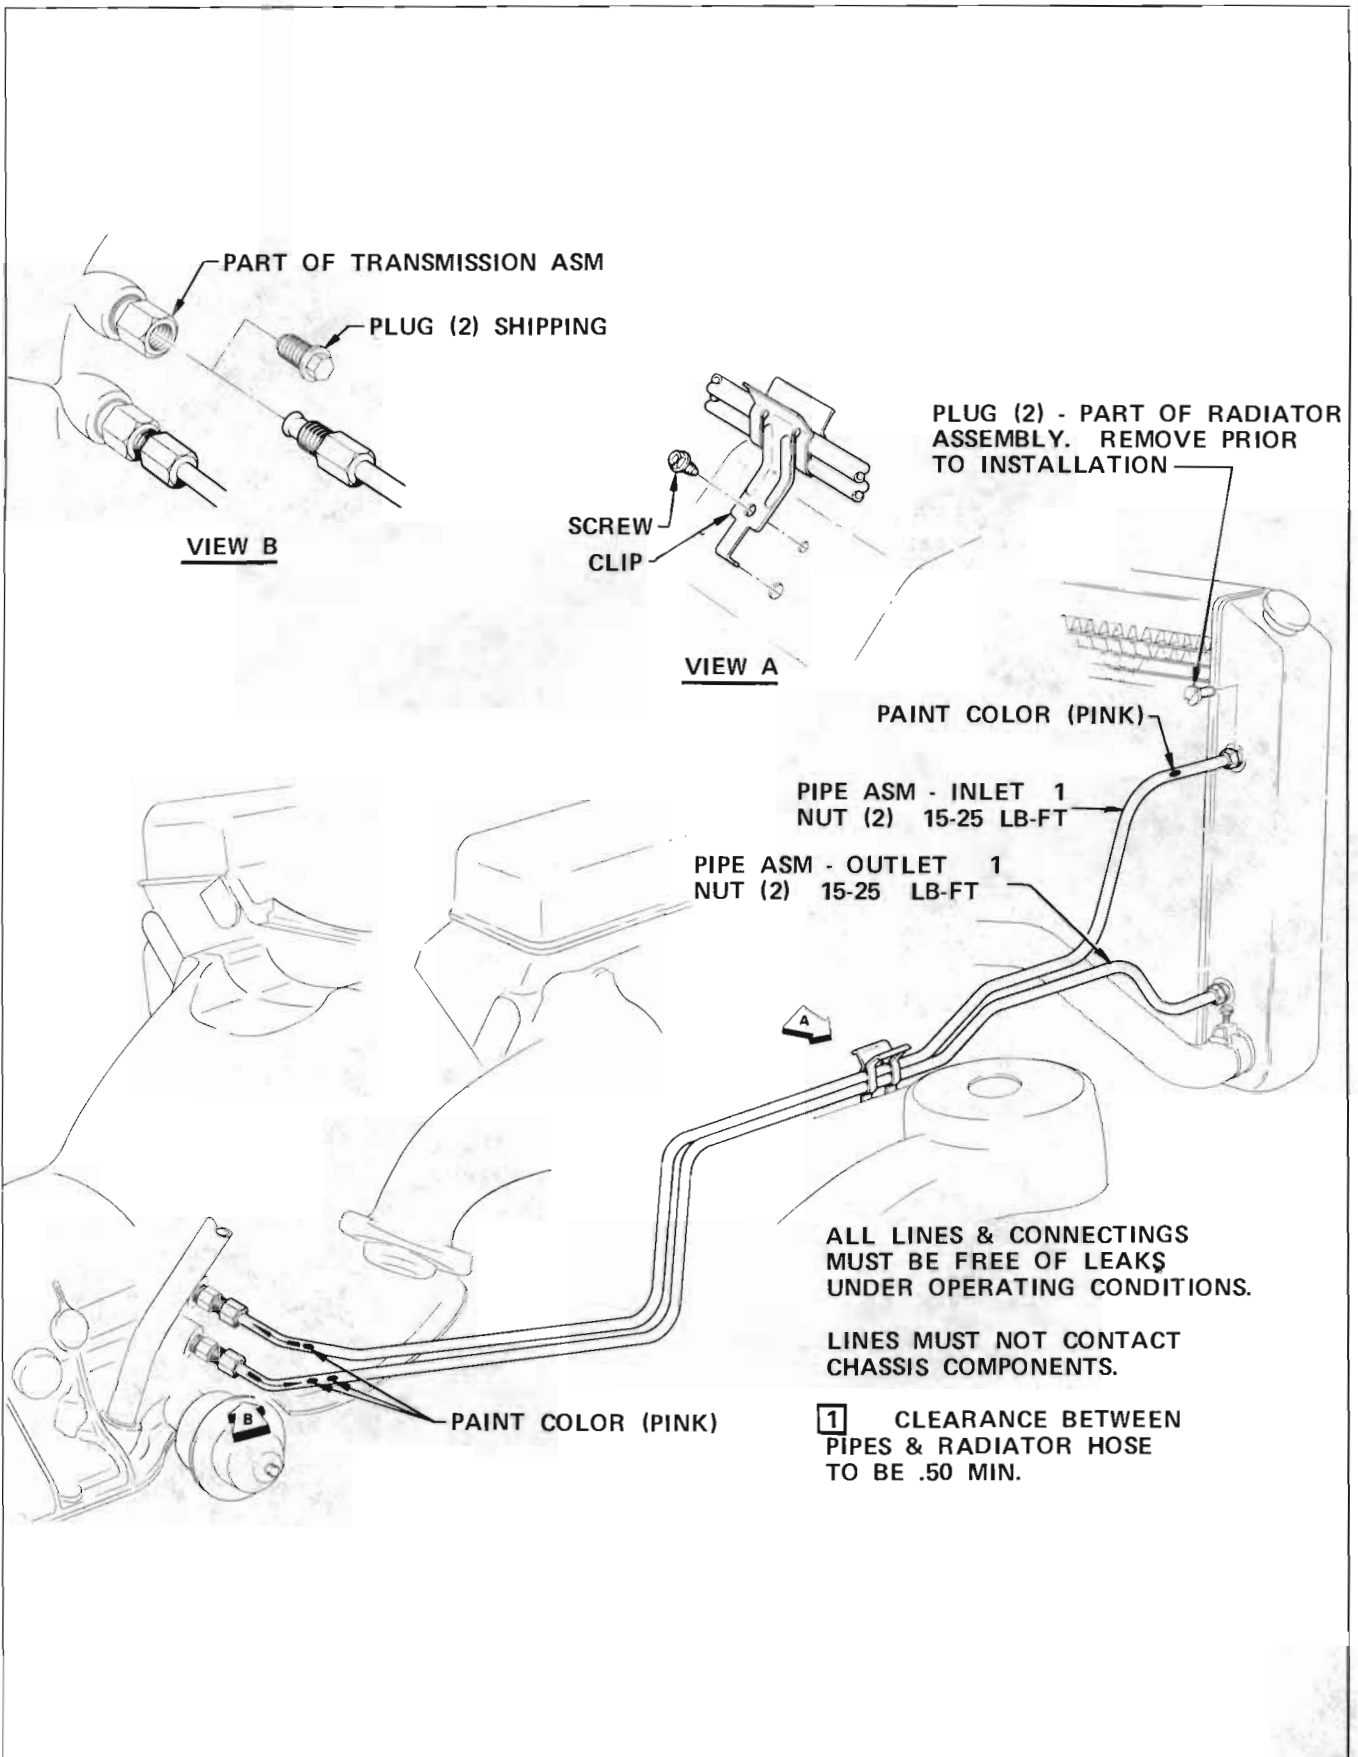

Figure 76-56 - Oil Cooler Lines
6. Loosen cooler line nuts and separate cooler lines from transmission. See Figure 76-56.
12. Install oil cooler lines to transmission. See Figure 76-56.